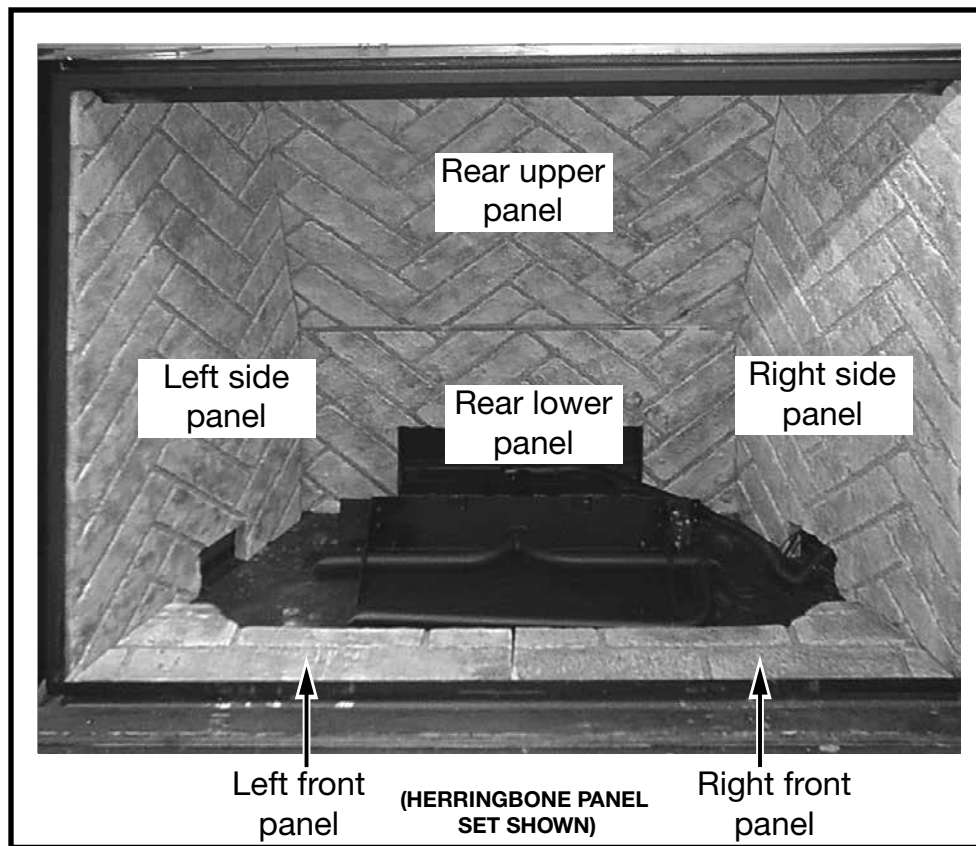

Figure 50: TC42 outdoor panel placement.
1. Install the Lower Rear Panel (Figure 50).
6. Install the Left and Right Front Panels (Figure 50).